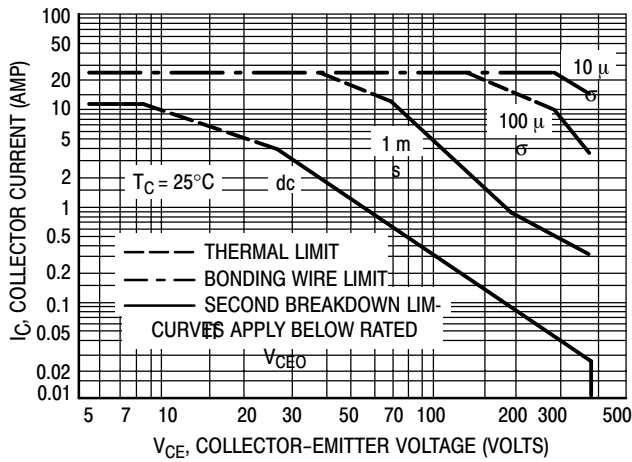
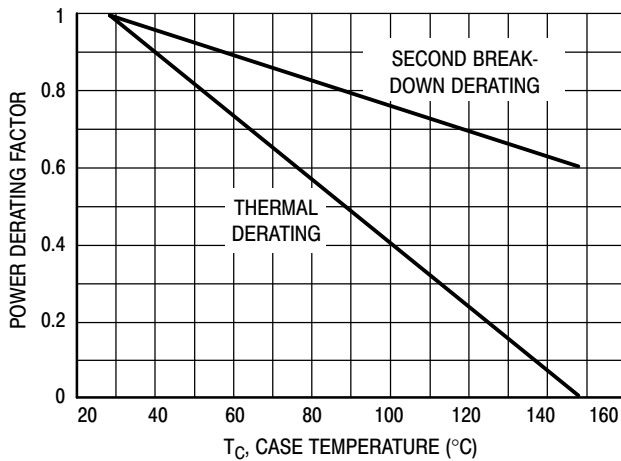

Figure 1. Forward Bias Safe Operating Area
Figure 3. Forward Bias Power Derating
The Safe Operating Area figures shown in Figures 1 and 2 are specified ratings for these devices under the test conditions shown.
The data of Figure 1 is based on $T_C = 25^\circ\text{C}$; $T_{J(pk)}$ is variable depending on power level. Second breakdown pulse limits are valid for duty cycles to 10% but must be derated when $T_C \geq 25^\circ\text{C}$. Second breakdown limitations do not derate the same as thermal limitations. Allowable current at the voltages shown on Figure 1 may be found at any case temperature by using the appropriate curve on Figure 3.
The sustaining or active region voltage requirements in switching applications occur during turn-on and turn-off. If the load contains a significant capacitive component, high current and voltage can exist simultaneously during turn-on and the pulsed forward bias SOA curves (Figure 1) are the proper design limits.
2. The turn-on time does not exceed 10 μ s (see standard pulsed forward SOA curves in Figure 1).